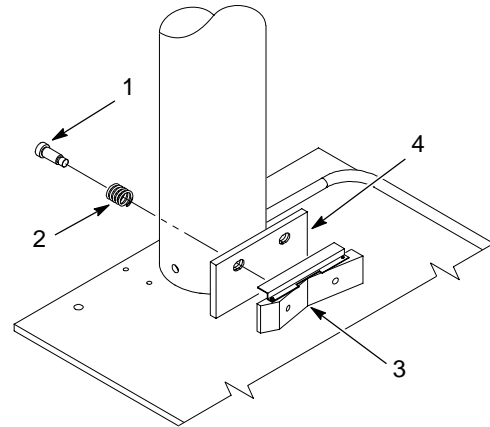

Figure 1 Removing the Hold Down Shoes
2. See Figure 1. Remove the screws (1) and springs (2) securing the hold down shoes (3) to the brackets (4).
8. See Figure 1. Install the hold down shoes to the brackets (4) using the screws (1) and springs (2) Tighten the screws securely.